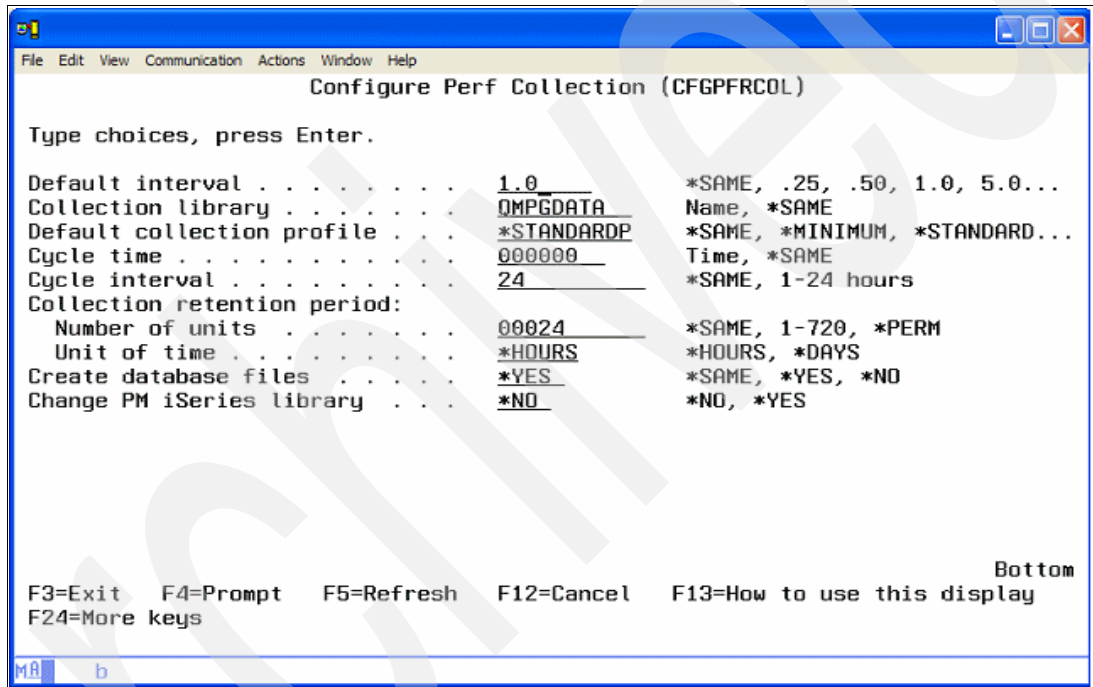

Figure A-4 Configure Perf Collection panel
4. Collection Services data is collected at intervals that you set using the Configure Perf Collection menu (Figure A-4).